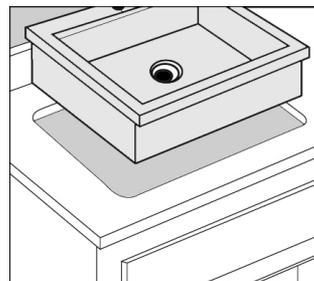

Figure 4
8. Apply a “rope” of plumbers putty or caulk around the perimeter of the underside of the sink. Flip the sink over and carefully place it into the countertop opening, with all of the drains and attachments secured. Press down firmly to seat the sink against the countertop (Figure 4).